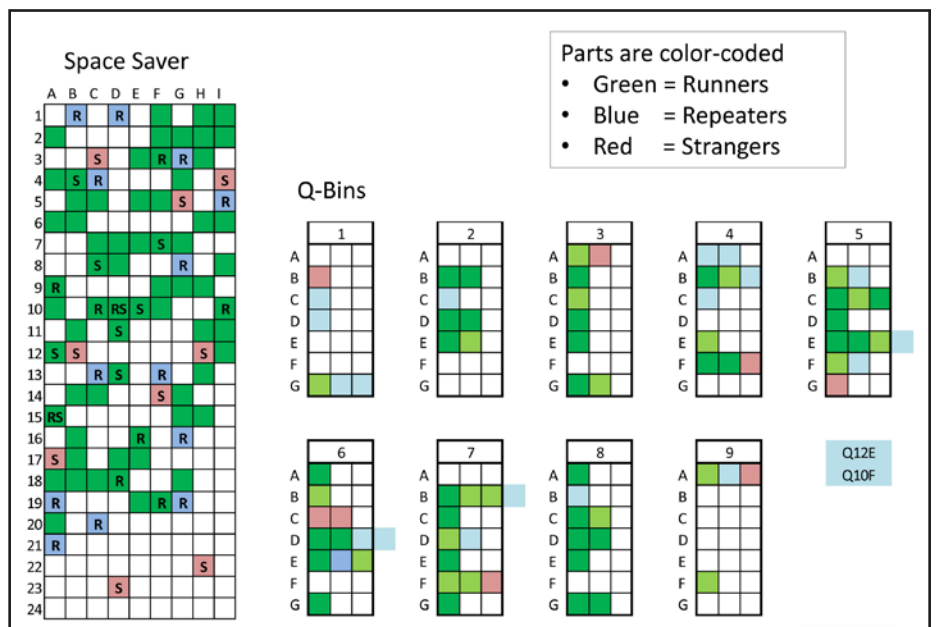

Figure 5 Current storage of packing rings in the Q-rings and space saver.
- Figure 5 shows that the current state of how the on-hand inventory of the many different packing rings that we make and sell to our customers is stored in floor-mounted bins (Q-bins) and the space saver (vertical lift module). What do